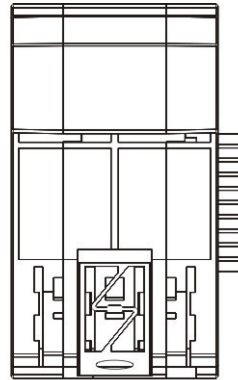
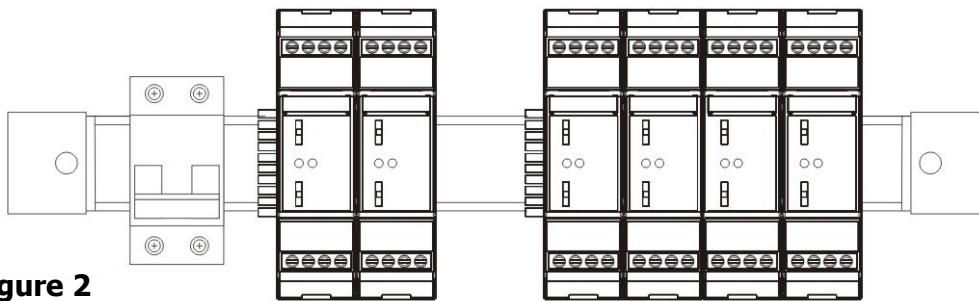
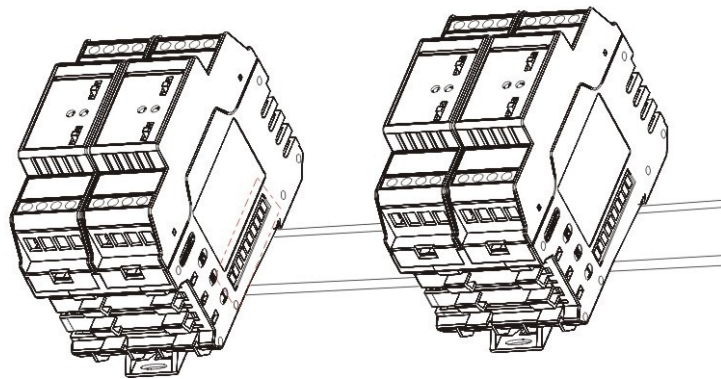

Figure 1
Figure 2
Figure 3
Step 1: Turn the module (see **Figure 1**) and mount it on the 35mm DIN rail. Hook the module, top first, onto the DIN rail then gently press the bottom of the module onto the rail and ensure that it latches on firmly (see **Figure 2**).
Step 2: Join the modules together by sliding them together along the DIN rail ensuring that the green-BUS plug (see **Figure 2**) fully locates into the next modules green-BUS socket (see **Figure 3**).